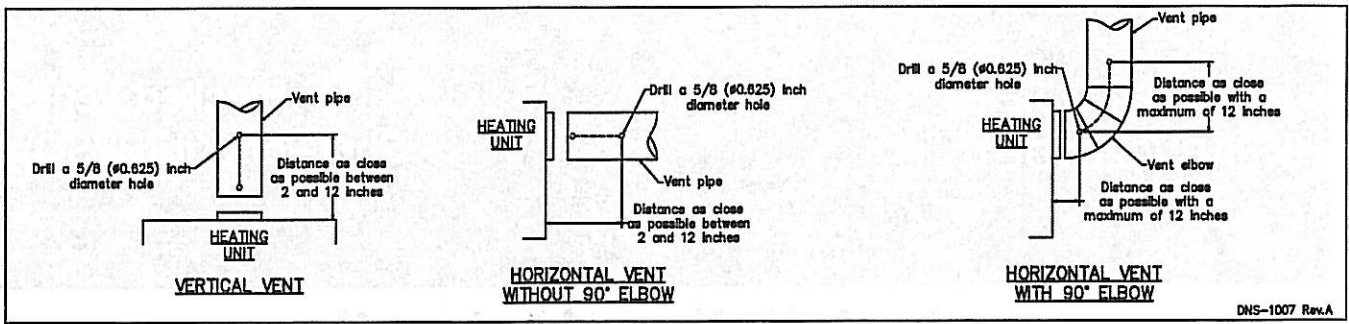

Fig. 1 – Drill Hole in Vent Pipe
1. Drill or pierce a clean hole (about 5/8-in. diameter) in the vent pipe at least 2" but not more than 12" from the appliance outlet. The hole must always be before the draft regulator. (See Fig. 1 and 3.) Insert the BVSO heat transfer tube into the 5/8" hole in the flue pipe, making sure that the fiber gasket is properly in place. Fasten the device to the flue pipe with 4 self-tapping screws.